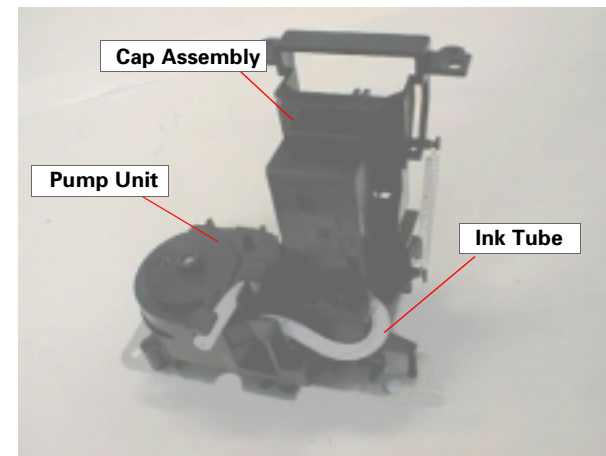
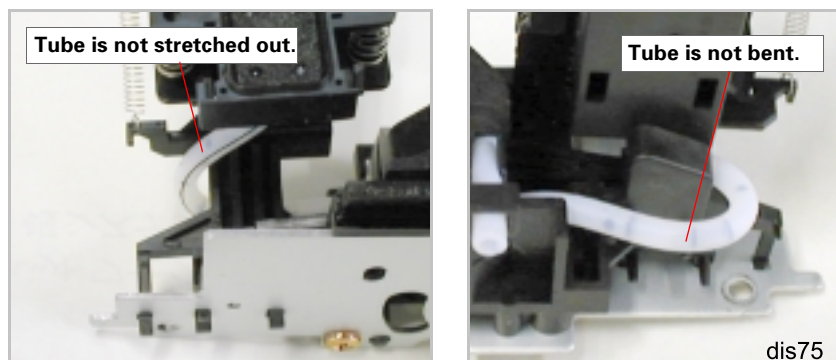

Figure 4-16. Ink Tube Installation (1)
Figure 4-17. Ink Tube Installation (2)
2. Check that the ink tube is securely connected to the connection part of the Cap Assembly. (See Figure 4-16.) Also, make sure the tube is not bent or crushed by the connection area. (See Figure 4-17.)
3. Check that the ink tube is placed correctly in the Ink System. (See to Figure 4-16.) Pay special attention in connecting the tube to the Pump Unit. Connect the tube by strictly following the instruction given in Figure 4-18.